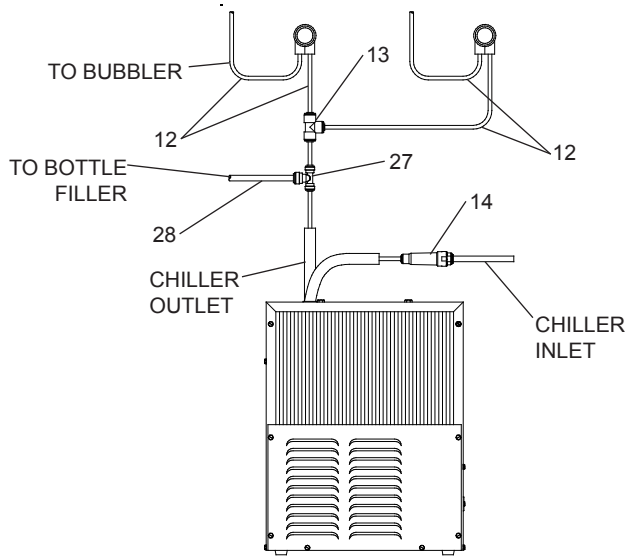

Figure 2 - HTHB-OVLSEWSI-I Tube Routing
- 3a. **(For HTHB-OVLSEWSI-I)** Install strainer on the input tube to the chiller (Fig. 2).